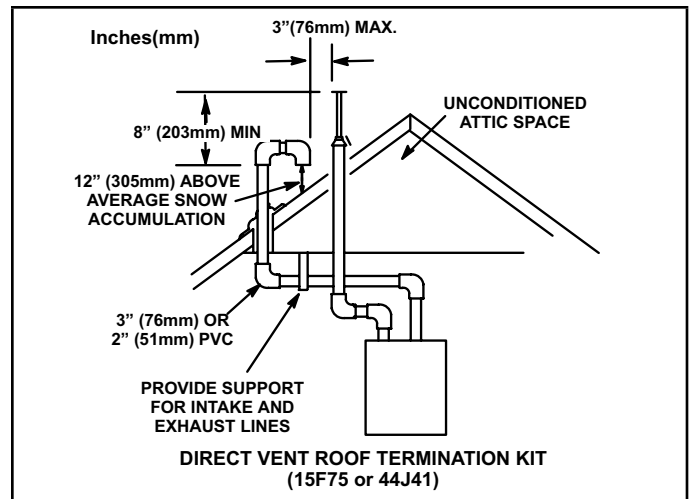

FIGURE 36
Intake and exhaust pipes may be routed either horizontally through an outside wall or vertically through the roof. In attic or closet installations, vertical termination through the roof is preferred. FIGURE 36 through FIGURE 43 shows typical terminations.
- 3 - On roof terminations, the intake piping should terminate straight down using two 90° elbows (See FIGURE 36).